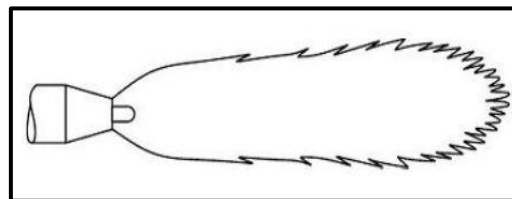

FIGURE 8.4.1
8.4 FIGURES 8.4.1–8.4.3 below show three different types of flames used in gas welding. Identify each flame.